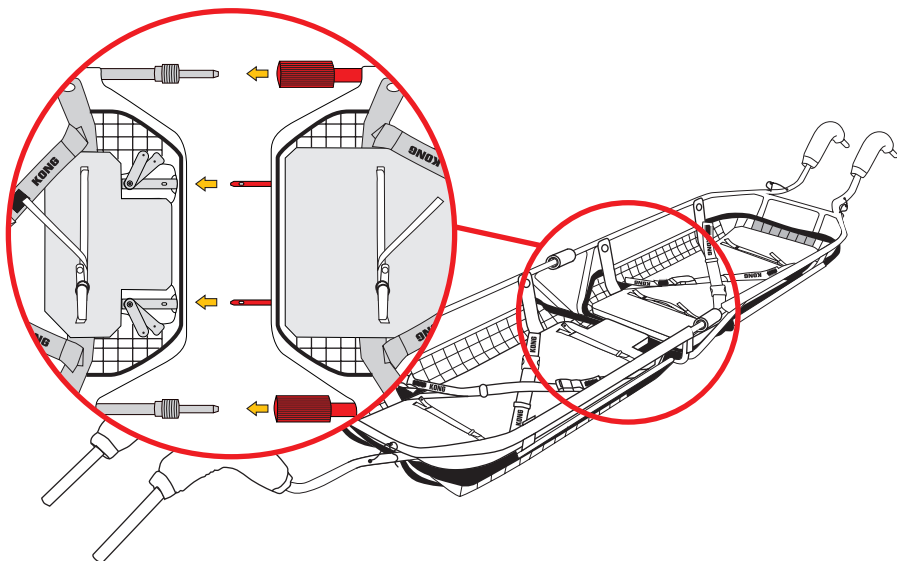

Fig.9
c) Connect the two parts of the structure using the pins on the frame (fig. 9),